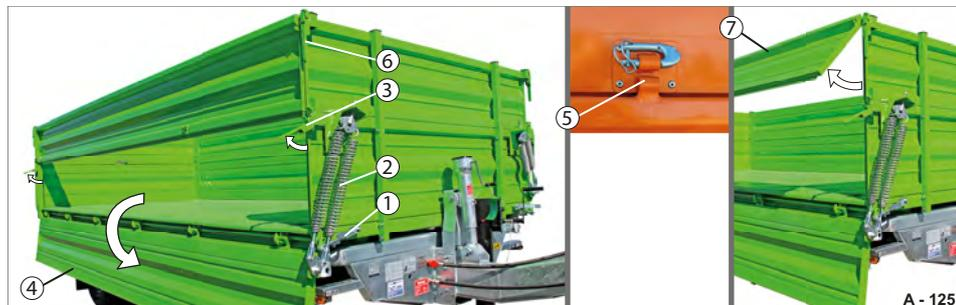

Fig. 130 Base platform gate combined with platform gate attachment folded down
The central locking system (Fig. 130/1) and the locks of the platform gate attachment (Fig. 130/6) must remain closed!
- ▶ Release the hinges (Fig. 130/5).
- ▶ Unfasten the locks (Fig. 130/3) of the base platform gate.
- ▶ Hold the base platform gate (Fig. 130/4) firmly and fold it down in a slow and controlled manner. The base platform gate hangs on the locking points of the central locking system.
- ▶ Fold up the base platform gate (Fig. 130/4). The lifting springs assist you.
- ▶ Fasten the locks of the base platform gate (Fig. 130/3).